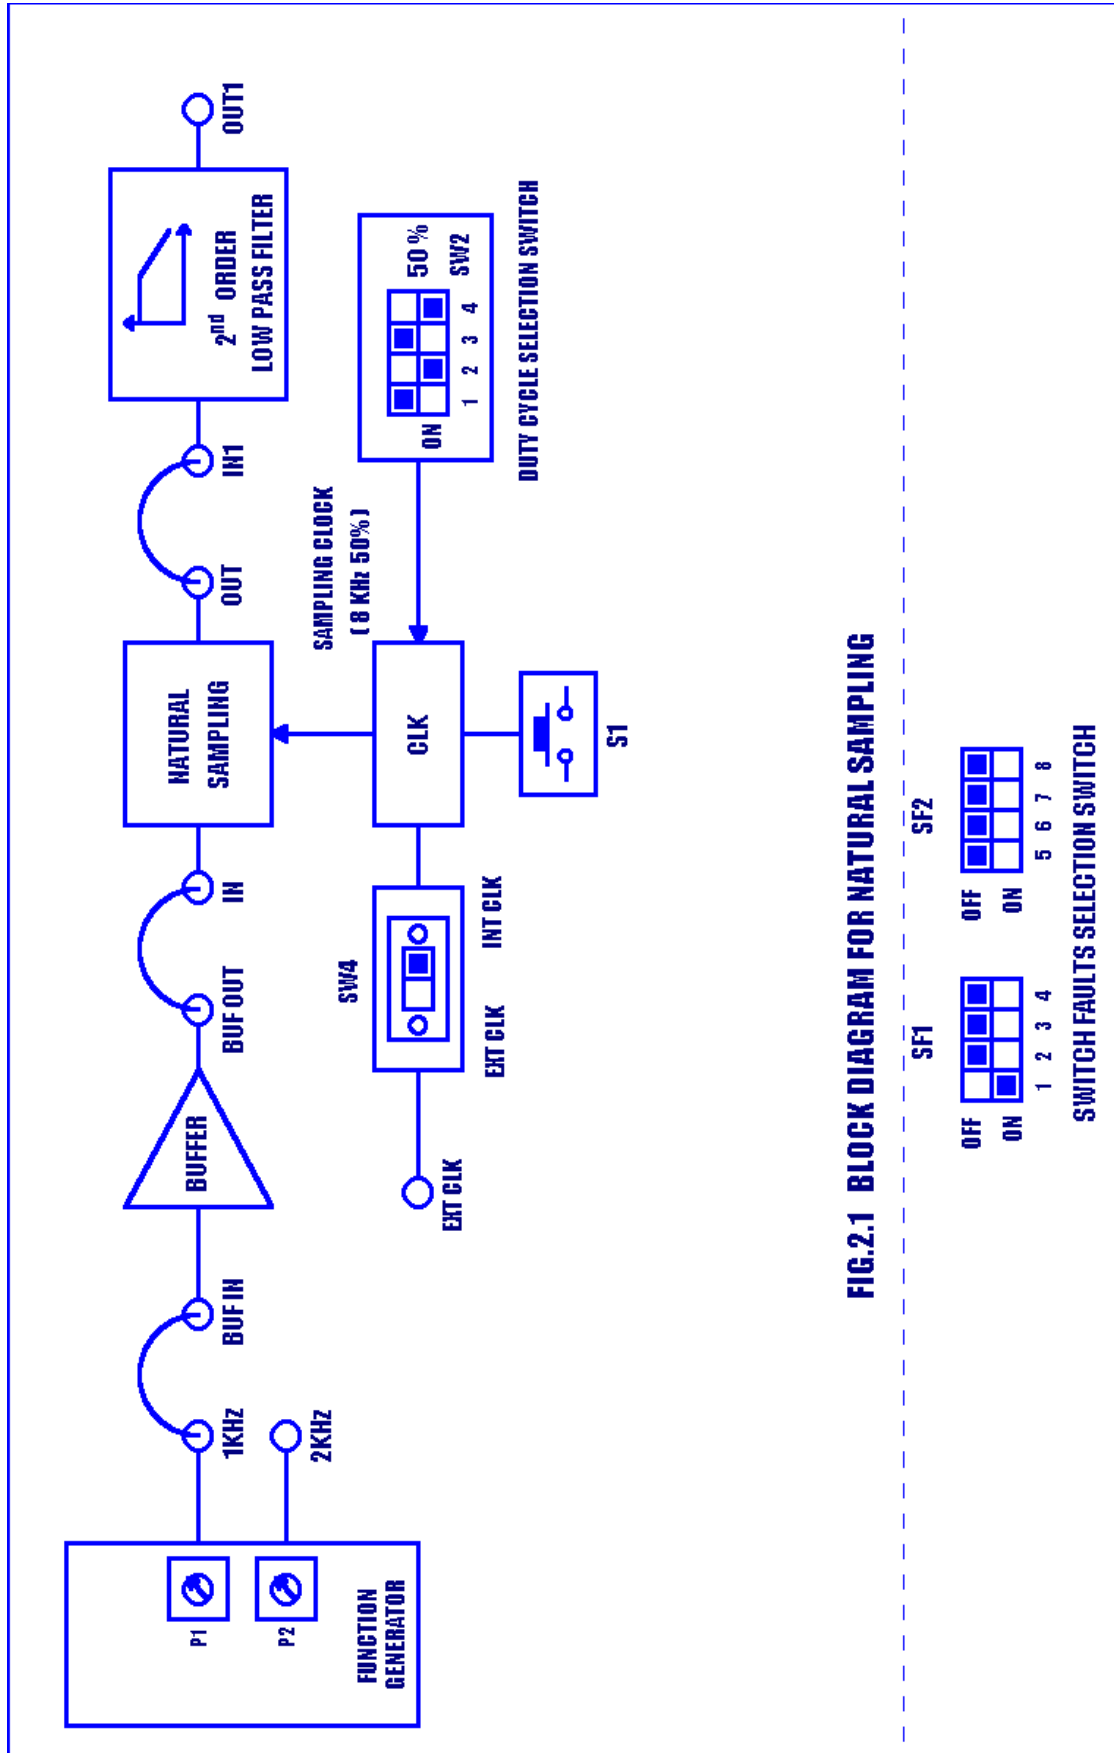

FIG.2.1 BLOCK DIAGRAM FOR NATURAL SAMPLING
1. Refer to the Block Diagram (Fig. 2.1) & Carry out the following connections and switch settings.